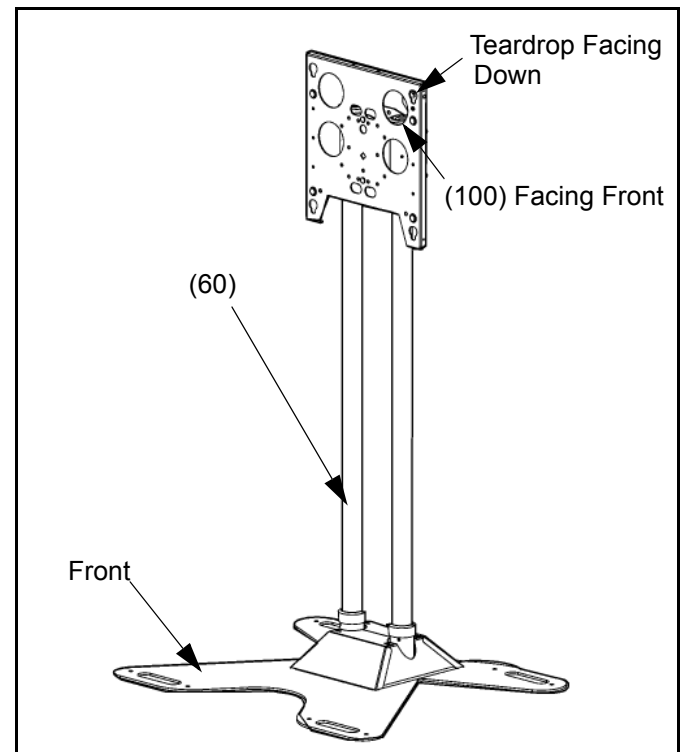

Figure 4: Floorstand Component Orientation
1. Install two Tubes (60) in Base (10) (see figure 4).